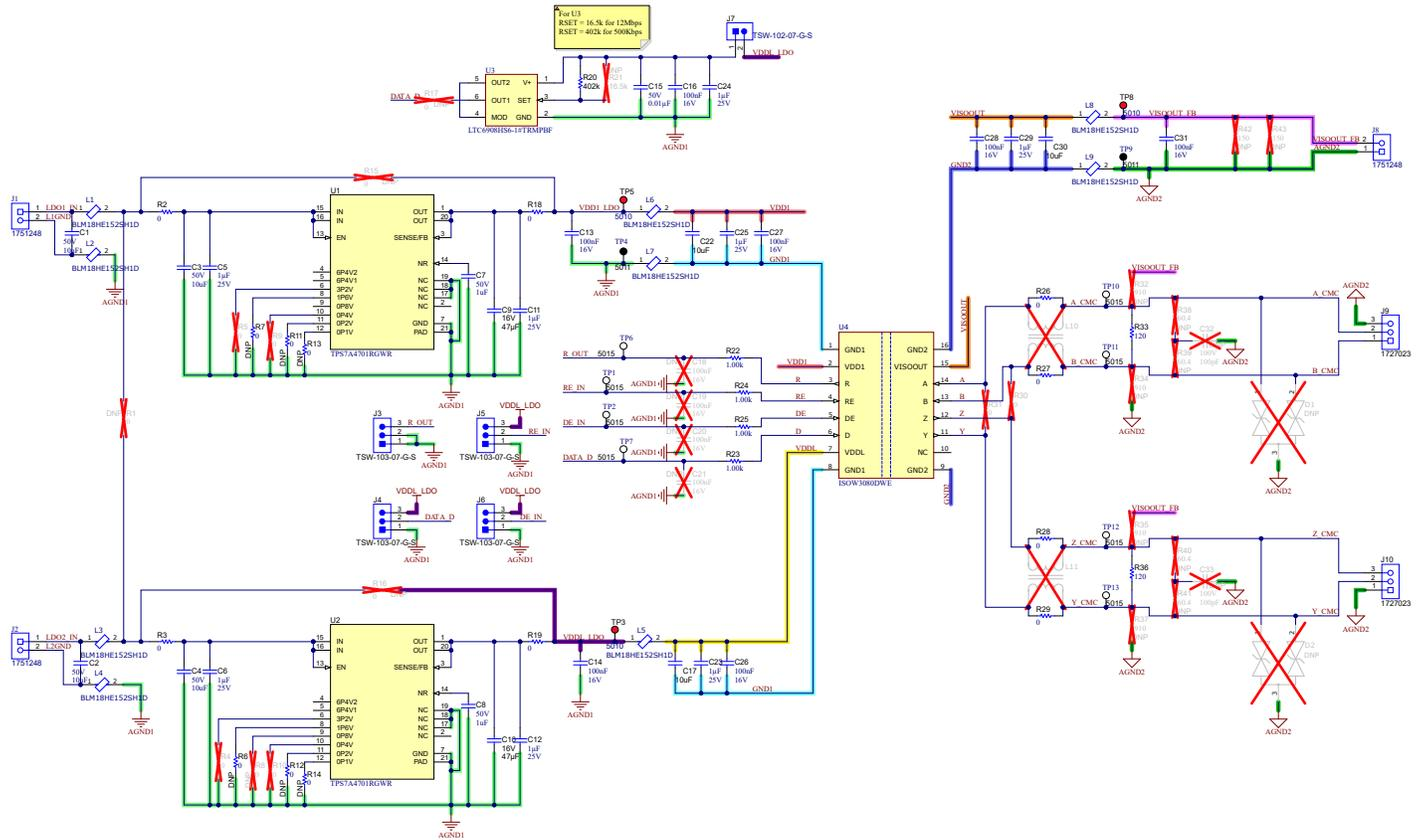

Figure 3-1. ISOW3080DWEEVM Schematic
The ISOW3080DWEEVM is designed to accommodate any of the ISOW308x(P) devices in a 16-pin WB SOIC package (DWE-16). To evaluate any of the ISOW308x(P) devices in a 16-pin WB SOIC package (DWE-16), replace ISOW3080 with the device of interest on the ISOW3080DWEEVM board. No other component requires any modification for ISOW308x devices. To evaluate any of the ISOW308xP devices, Pin2(VDD1) needs to be changed to 5V from the default setup of 3.3V by changing resistor options on U1. Figure 3-1 shows the ISOW3080DWEEVM schematic.